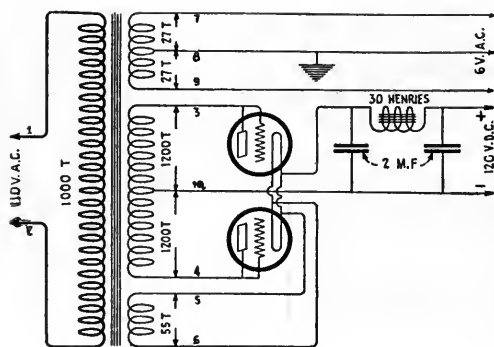

FIG. 5
If UV-201 or UV-201-A tubes are used in the rectifier or amplifier circuits, windings No. 3 and No. 4 should consist of 48 and 24 turns, respectively. If 50 milliamperes or more are to be drawn from the set, using UV-201-A or UV-201 tubes, their life will be considerably shortened. It will then be necessary to use two such tubes in parallel, or the full-wave rectification, push-pull circuit may be adopted, as shown in Fig. 5, and the high voltage winding No. 2 must contain twice the number of turns previously specified. Each high voltage winding is wound in exactly the same manner as before, except that each winding occupies but half the spool on which the windings are placed. They are best wound by placing a divider in the middle of the spool, which is the same size and material as the spool heads. Each section of the divided spool will be of the same size and will contain the same number of turns, i. e., 1200. The two windings are wound in opposite directions to each other, bringing the outer end of each winding to the center of the spool, near the divider, when completing the last layer of each winding. The two adjacent ends, each an outer end of its respective winding, are then connected together and soldered, and this point is the
negative terminal of the plate supply system, as shown at (10) in Fig. 5. It is the electrical mid-tap of the secondary winding, provided care has been taken in placing the same number of turns on each half of the spool.